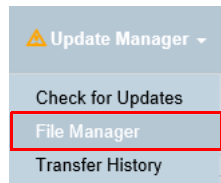

FIG. 44 Update Manager menu - File Manager
1. In RMS Enterprise (HTML interface), select on the **Update Manager > File Manager** (FIG. 44):